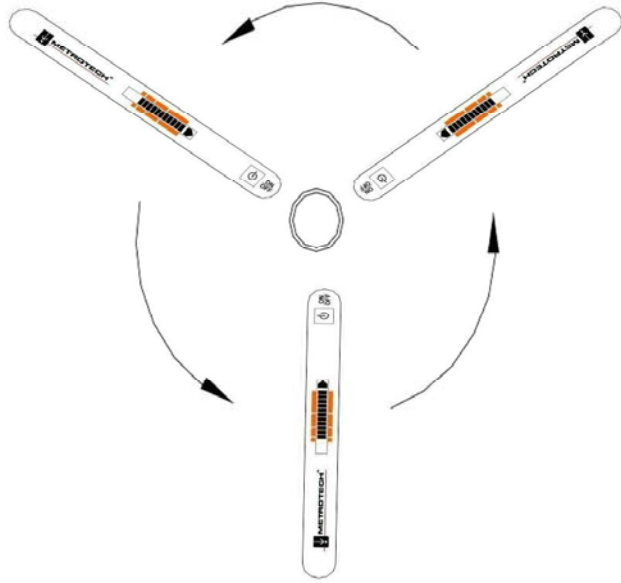

Figure 7-2: Fault Confirmation
- 4 Place the other spike in the ground at the fault site and repeat the process. The arrow should always point inward, toward the fault. **See Figure 7-2.**